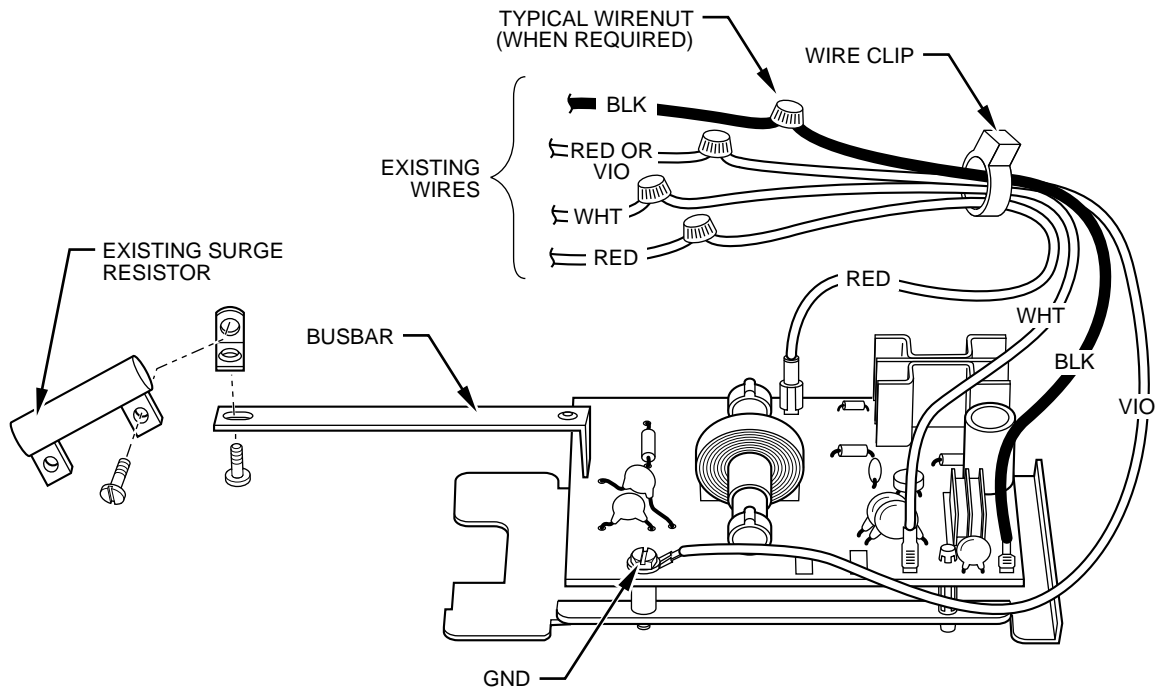

Fig. 1 — Models 31RG, 31RX, and 908C with 120-60-1 Electrical Supply
4. Cut terminal ends off wires disconnected from removed power supply and strip 1/2 in. of insulation from wire. Splice wires to new power supply wires with wire nuts provided in kit. (See Fig. 1.)
5. Connect existing wires and bus bar. (See Fig. 1)